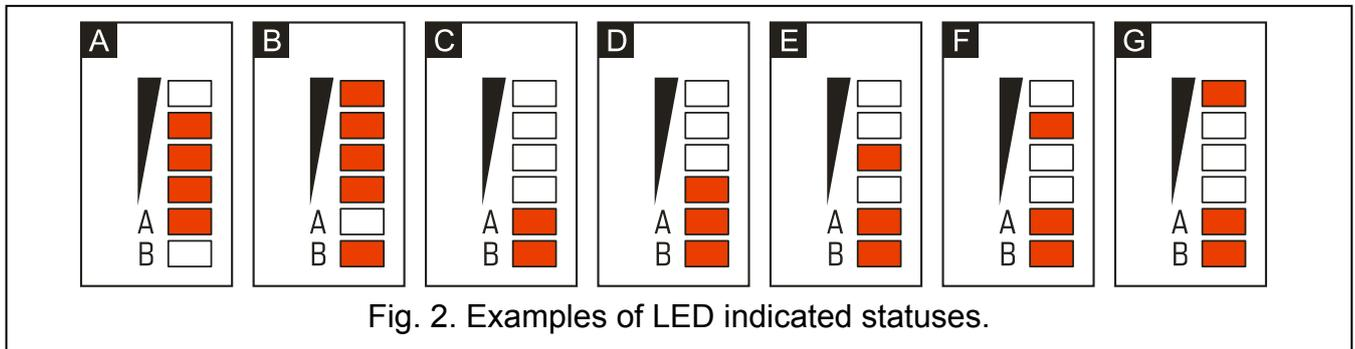

Fig. 2. Examples of LED indicated statuses.
- ① **superheterodyne receiver**, high sensitivity, immune to spurious signals.
- ② **battery connection cables**.
- ③ **LEDs** indicating the module status. LED A is blinking when GPRS transmission is going on. LED B is blinking when SMS message is being sent or the module is calling (CLIP test transmission). The other LEDs indicate the level of signal received by the GSM telephone. LEDs A and B blinking simultaneously indicate logging into the GSM network. In case of an unsuccessful GSM network login, blinking of the other LEDs provides information on the troubles (see: Fig. 2).
- ④ **port RS-232 (standard TTL)** enables local programming by means of the GPRS-SOFT program (connection can be made using the USB-RS converter offered by SATEL).
- ⑤ **antenna socket**. Be careful when connecting the antenna so as not to damage the socket.
- ⑥ **nano-SIM card socket**. It is not recommended to insert the SIM card into its socket before programming the card PIN code in the module (if the card requires entering the
Explanations for Figure 2:
- Some additional information can be provided by LEDs on the electronics board (see: Fig. 2).
*If the SIM card PIN code is inconsistent with that defined in module settings, the inconsistency will be indicated by the electronics board LEDs (see: Fig. 2 Example F). The second attempt of using the PIN code will be made after 30 seconds. After the third attempt to use the invalid PIN code, the SIM card will be blocked. In order to enter the PUK code and unblock the SIM card, remove it and insert into the mobile phone.*